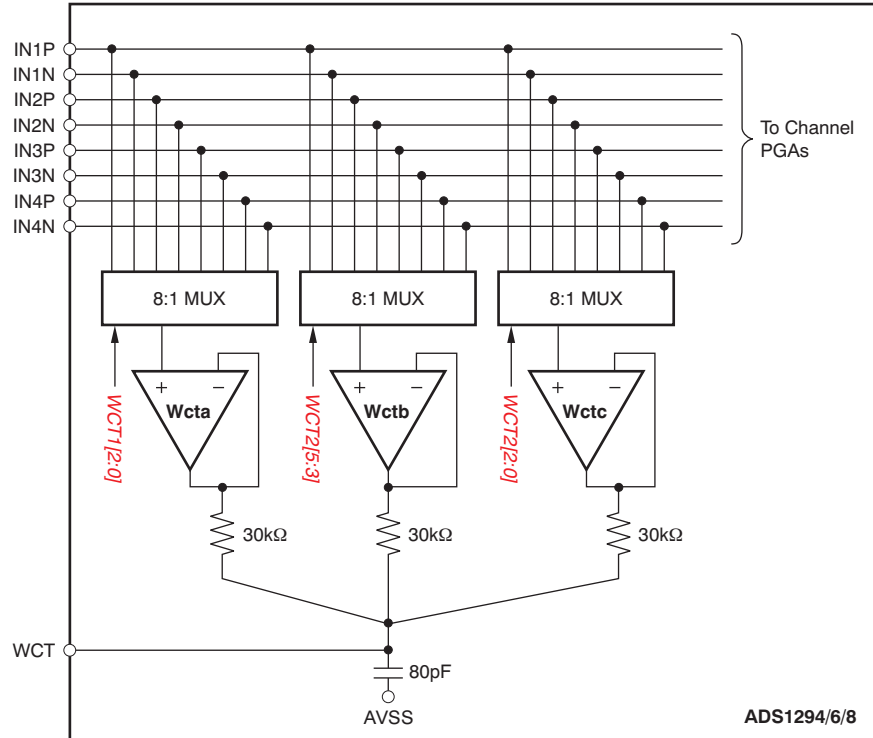

Figure 49. WCT Voltage
In the standard 12-lead ECG, WCT voltage is defined as the average of Right Arm (RA), Left Arm (LA), and Left Leg (LL) electrodes. This voltage is used as the reference voltage for the measurement of the chest leads. The ADS1294/6/8 has three integrated low-noise amplifiers that generate the WCT voltage. Figure 49 shows the block diagram of the implementation.